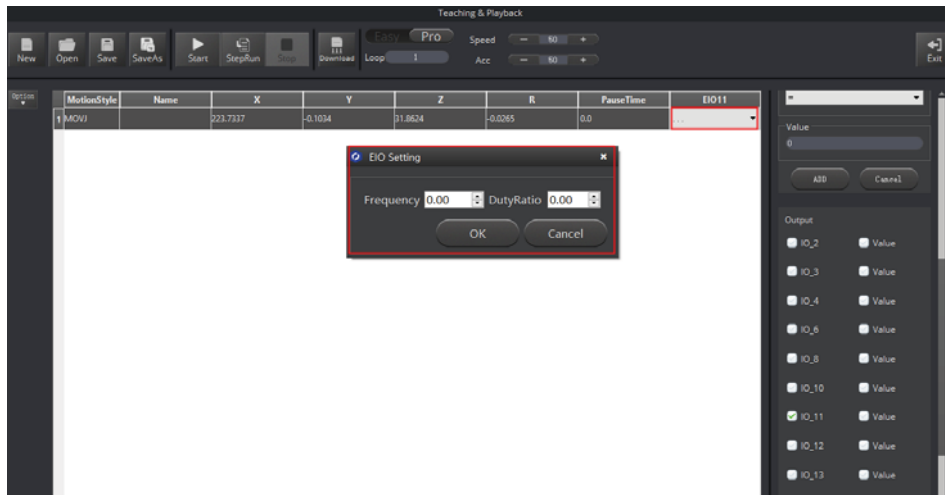

Figure 5.196 EIO setting
Step 3 Double-click **EIO11** cell and select ... from the drop-down list. The **EIO Setting** page is displayed, as shown in Figure 5.196.